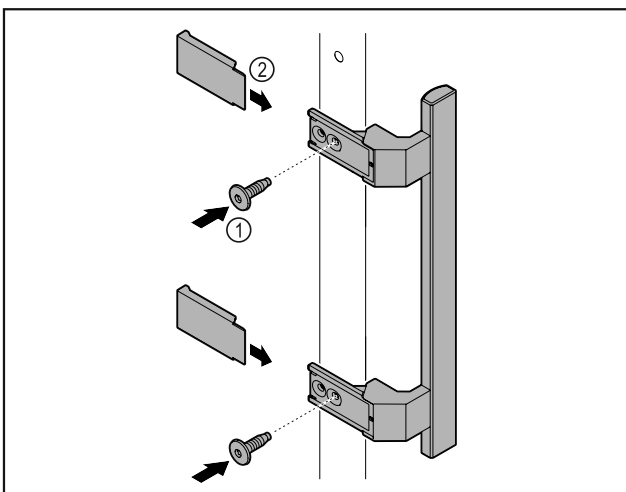

Fig. 66
- ▶ Attach handle from accessory kit to the door using supplied screws Fig. 66 (1).
- ▶ Put on cover Fig. 66 (2).